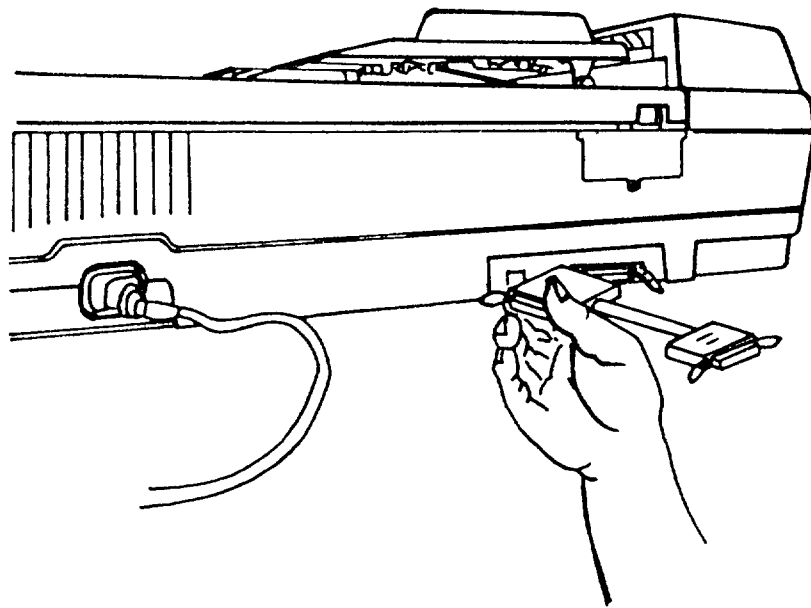

Figure 2.8 Signal cable connection
2. Plug one end of the SCSI cable into the SCSI connector of the device A, and the other end of the cable to one female connector of the Daisy-Chain connector of the scanner. As shown in Figure 2.8.